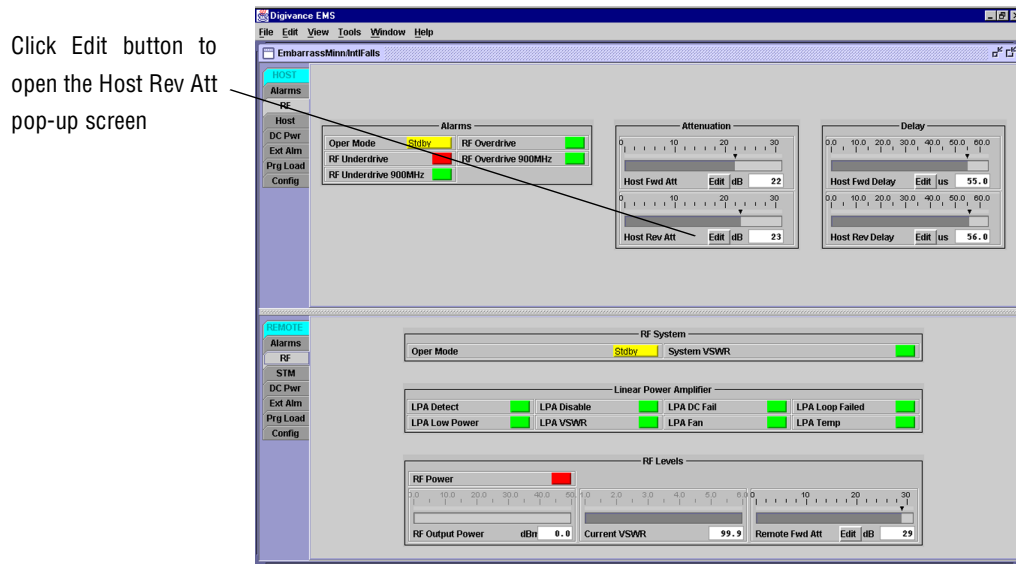
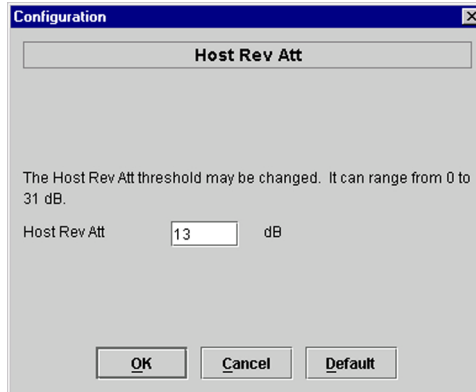

Figure 3-12. HOST RF Display
Figure 3-13. Host Rev Att Pop-Up Screen
4. Click on the **HOST RF** tab. The **HOST RF** display will open within the EMS main window as shown in Figure 3-12.
- Click on the **Host Rev Att** field **Edit** button (see Figure 3-12). The **Host Rev Att** pop-up screen will open as shown in Figure 3-13.